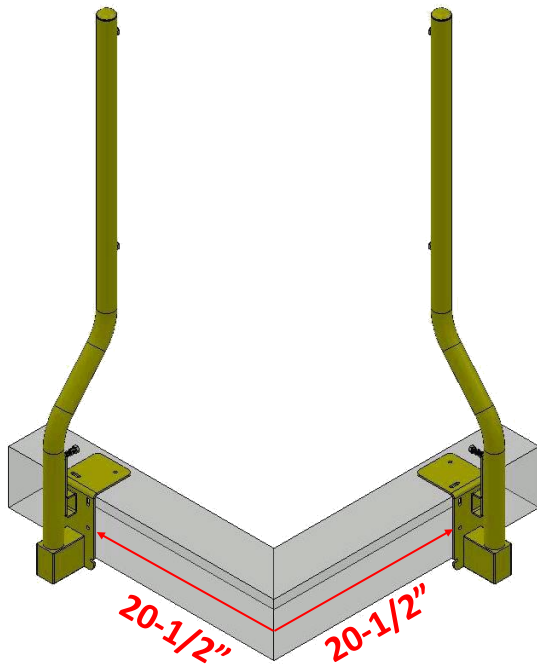
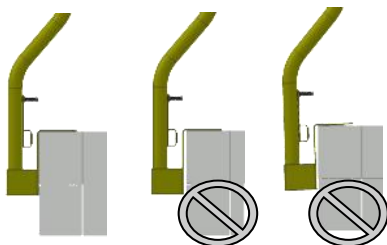
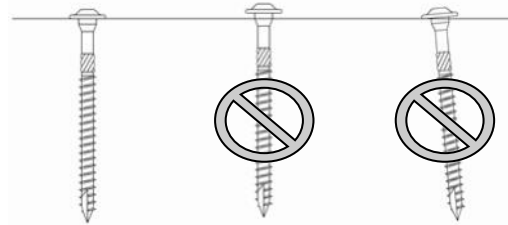
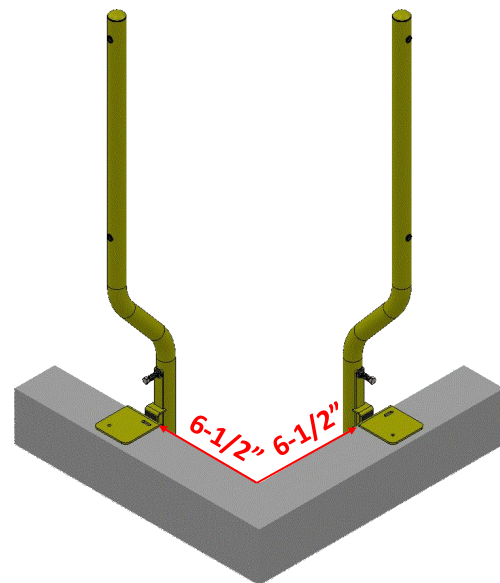

Figure 1.1
Figure 1.2
Figure 1.3
Figure 1.4
STEP 1—Determine the first corner from which work will begin. To ensure proper placement of the corner uprights, place each upright $20-1/2"$ from the outside corner of the structure (see **Figure 1.1**). Ensure uprights are plumb and the vertical face of the mounting bracket is flush with the substrate (**Figure 1.2**); attach to structure with appropriate fasteners (see **Figure 1.3**). Inside corner placement, see **Figure 1.4**.